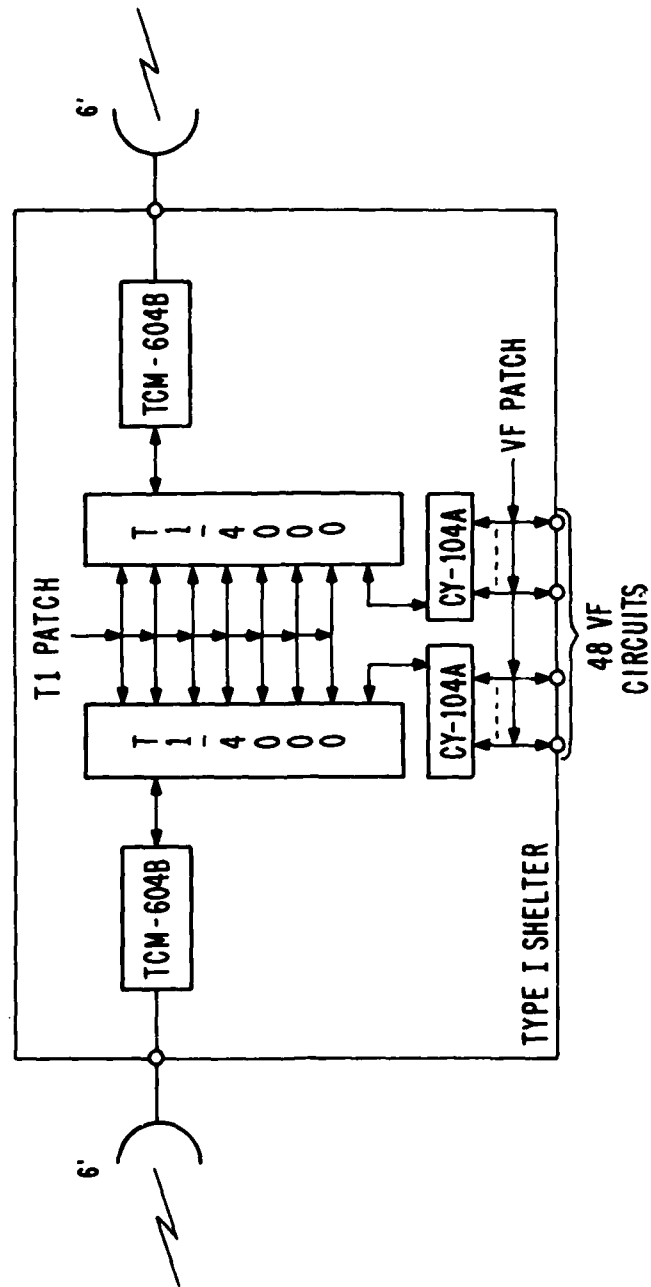

Figure 7. Drop and Insert Microwave Repeater
(2) The same repeating ability with a "drop-and-insert" capability for up to 96 full-duplex VF circuits, 48 channels (two digroups) broken out in each direction. Provisions can be made for manually interconnecting (patching) the T1 lines of the two second-level multiplexers in all possible combinations. An example of a single T1 line of a second-level multiplexer, which has been manually selected for use in a 48 channel breakout "drop-and-insert" configuration, is shown in Figure 7.